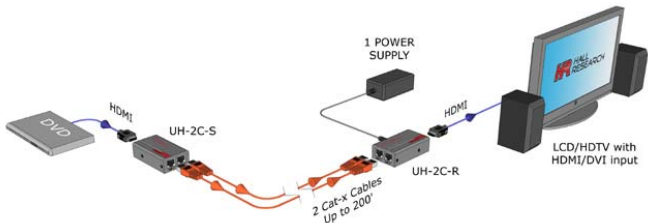

Figure 1 – Block Diagram
Refer to figure 1 above. Place the sender by the video source. Use a quality HDMI™ cable to connect the source to the sender (the cable is not included and must be purchased separately). Use (2) Cat6 cables to connect the sender to the receiver. Make sure to not cross the connections as this may cause damage to the unit or the power supply. The RJ45 outputs are labeled as 1 and 2, please label the ends of your UTP cable so that it is easy to plug the ends correctly.